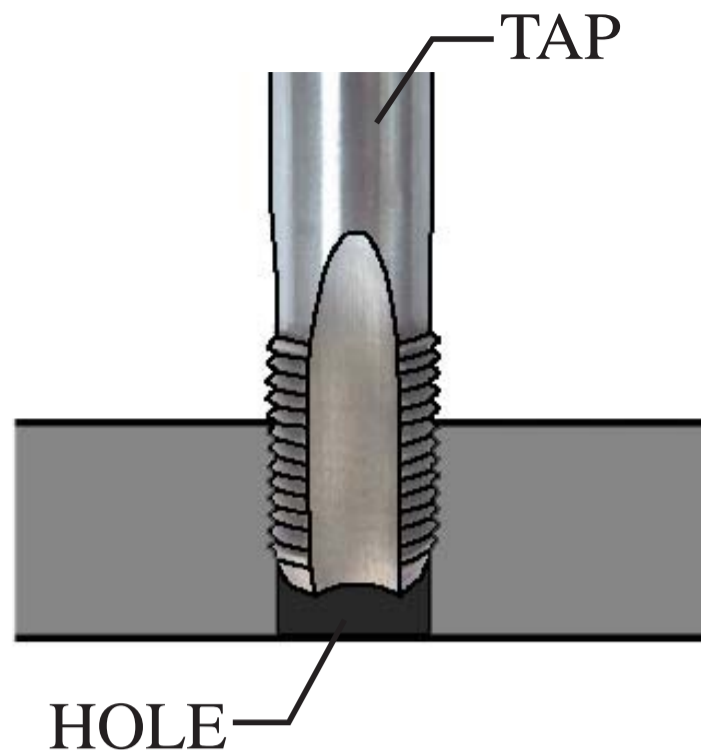

Figure 13
4) Tap the hole using the 1/8" NPT pipe tap. See Figure 13.